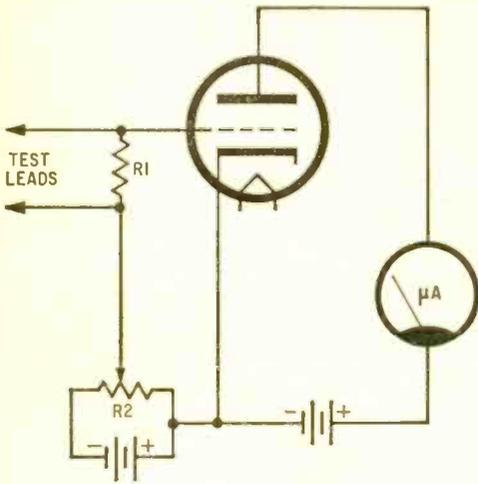

Fig. 14. A basic single-ended vacuum tube voltmeter circuit—R2 provides meter zero set.
**Vacuum tube voltmeters.** A DC milliammeter or DC microammeter is used in vacuum tube voltmeters, as in multi-meters, except they are preceded by a vacuum tube amplifier. In the circuit shown in Figure 14, the meter is connected in series with the plate of the tube and indicates plate current. By adjusting bias control R2, we can set the negative grid voltage to a value that will cause the plate current to cut off and the meter to read zero. Then, if we apply a DC voltage to the test leads which are shunted by R1, the voltage applied across R1 will be in series with the bias voltage fed in from R2. If the voltage at the grid end of R1 is positive, the bias on the tube will be reduced and the tube will conduct and the meter will